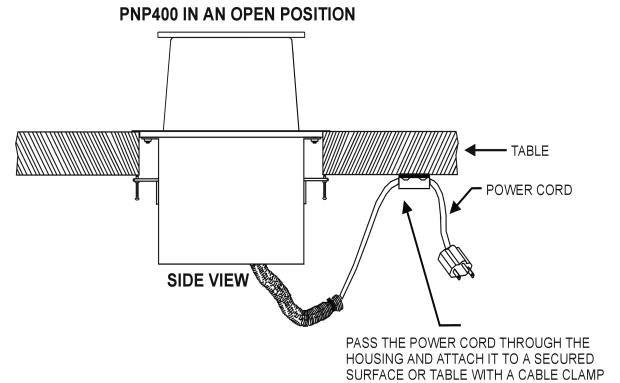

Figure 2: Cable Clamp Installation for Service Loop (diagram above shows only the power cord not the cables)
Step 4. Secure the cables by using a cable clamp. Pass the power cord from the bottom of the housing and attach it to the table using the cable clamp supplied with the PNP400 unit. Do not keep the cord too tight or too loose. (See Figure 2)